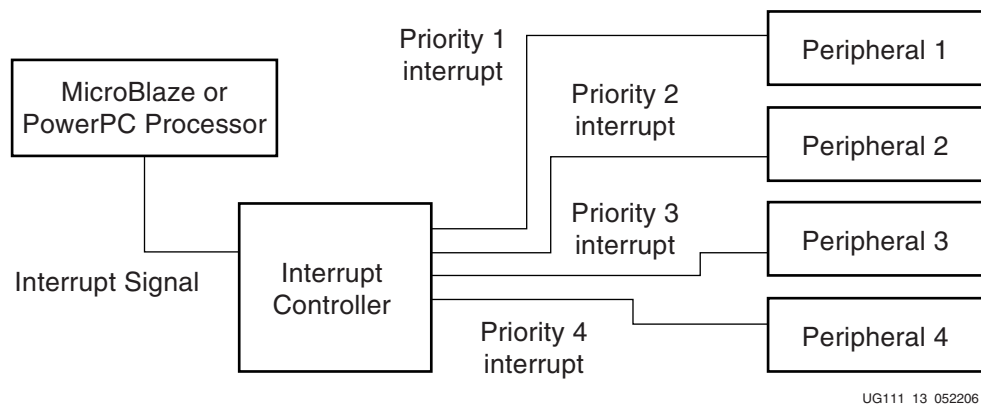

Figure B-1: Interrupt Controller and Peripherals (Example)
To connect more than one interrupt to the processor's interrupt port, you must use an interrupt controller. Xilinx provides two interrupt controllers: (1) the DCR Interrupt Controller and (2) the OPB Interrupt Controller. Both allow up to 32 interrupts. The controllers manage multiple interrupts through a simple prioritization scheme, as shown in Figure B-1.
Libgen also generates `XPAR_<INTC_INSTANCE_NAME>_MAX_NUM_INTR_INPUTS` to define the total number of interrupting sources connected to the interrupt controller peripheral, as shown in Figure B-1 on page 206. The `INTR` definitions define the identification of the interrupting sources and should be in the range of: